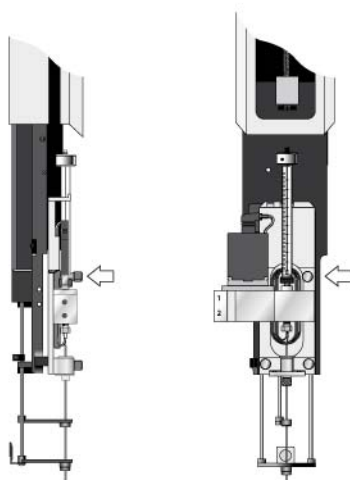

Figure 27 Fixing the Syringe Holder to the Syringe Slider
- 3 Tighten the knurled screw to fix the Holder Assembly to the syringe slider. (See Figure 27 on page 80.)